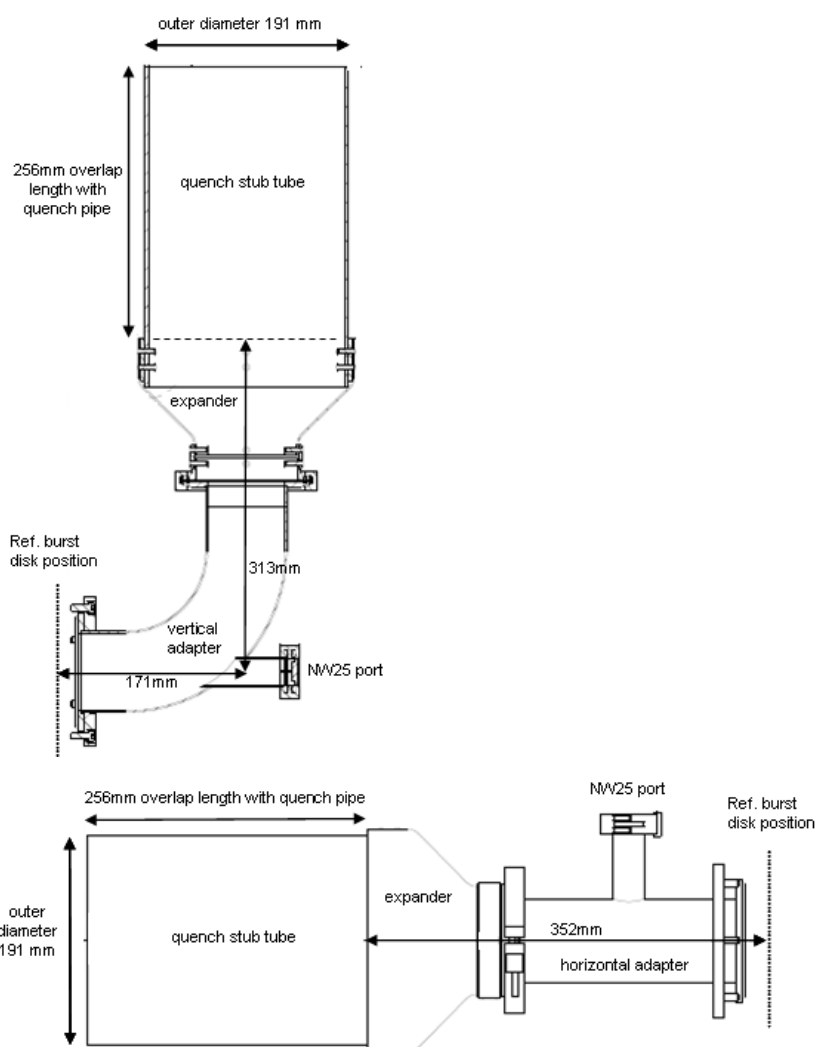

Figure 5 Schematic diagrams with dimensions for the vertical and horizontal quench adapter, expander and stub tube
The horizontal and vertical adapters with the expansion tubes are shown in Figure 5 on page 58. Please note that on the external side of the burst disk on the quench manifold there is a retaining ring. On installation this needs to be fitted with the hole on the edge facing downwards. This is a drainage hole and allows any moisture or condensation to safely drain without compromising the burst disk.
- Figure 5 on page 58 shows the vertical and horizontal quench adapters. These drawings specify the horizontal and vertical dimensions from the centre of the manifold's burst disk to the top of the expander (that is where the rooms duct is aiming to meet the adapter after it has overlapped)